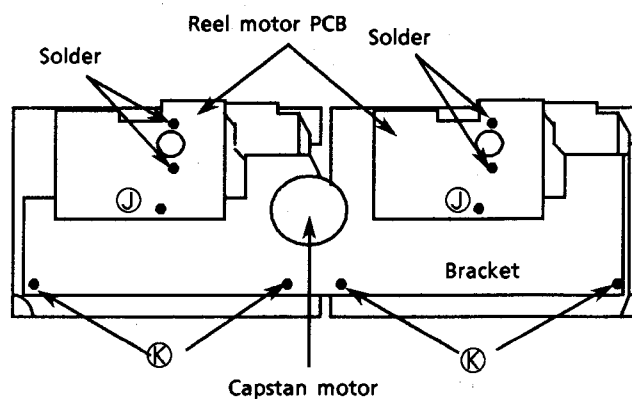

Fig 13
3. Remove the 4 screws ⑫ fixing the bracket (Fig 13).
3. Remove the screws ㊦ and the bracket (Fig 13).